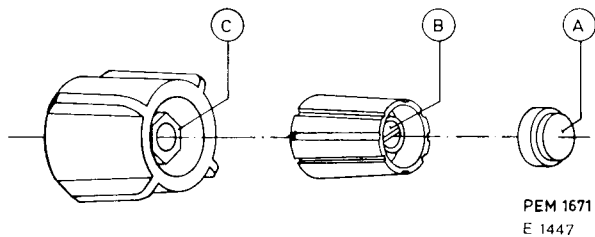

Fig. 52. Remove the knobs
B. REMOVING THE KNOBS (See Fig. 52)